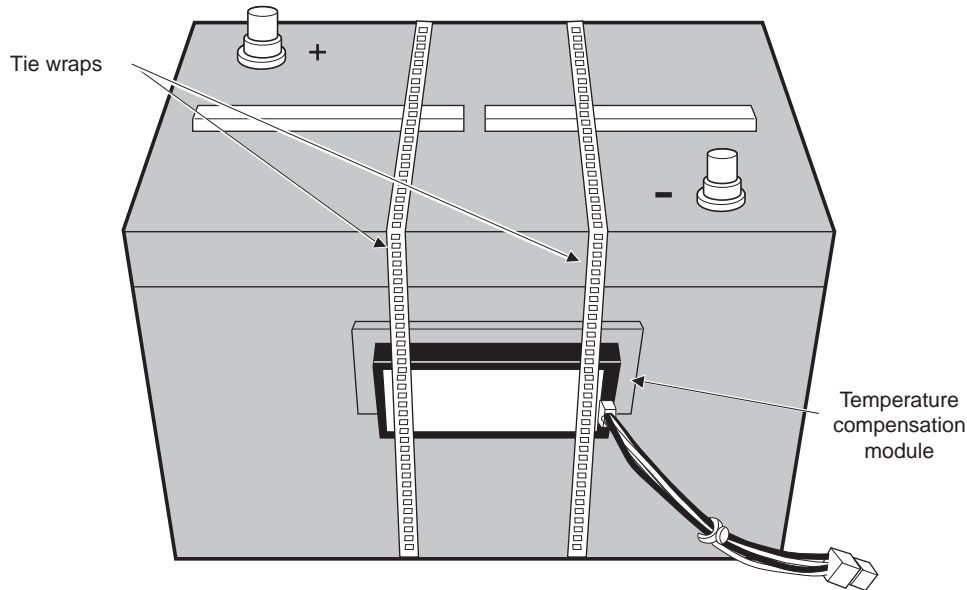

Figure 47. Temperature Compensation Module Installed
- 11 If battery No. 1 at the front of the drawer is being replaced, attach the temperature compensation module, using long cable ties as shown in Figure 47 on page 58. Place the module low on the front of the battery, so that it will fit under the battery connector bus. Tighten the cable ties securely, and verify that the module is held firmly in place. Trim any excess cable tie.